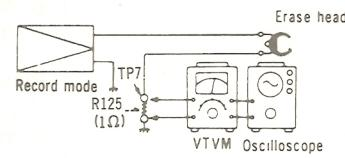

Fig. 11
F Erase current	<p>Condition: * Record mode * Metal tape mode</p> <p>Equipment: * VTVM      * Oscilloscope</p> <p>1. Test equipment connection is shown in fig. 11. 2. Place UNIT into metal tape mode. 3. Press the record and pause buttons. 4. Read voltage on VTVM and calculate erase current by following formula:</p> $\text{Erase current (A)} = \frac{\text{Voltage across both ends of R125}}{1 \text{ } \Omega}$ <p>Standard value: <math>155 \pm 15 \text{ mA}</math> (Metal position)</p> <p>5. If measured value is not within standard, adjust as follows.</p> <p>Adjustment</p> <ol style="list-style-type: none"> <li>Short the points (b) and (c) on the main circuit board diagram (see page 25).</li> <li>Make measurement for erase current.</li> <li>Make sure that the measured value is within the erase current of 140 mA to 170 mA.</li> <li>If measured value is not within standard, short or open connection points (b) and (c) for adjustment (see table 2).</li> </ol> <p>Reference value: around 70 mA (Normal position) around 95 mA (CrO2 position)</p>